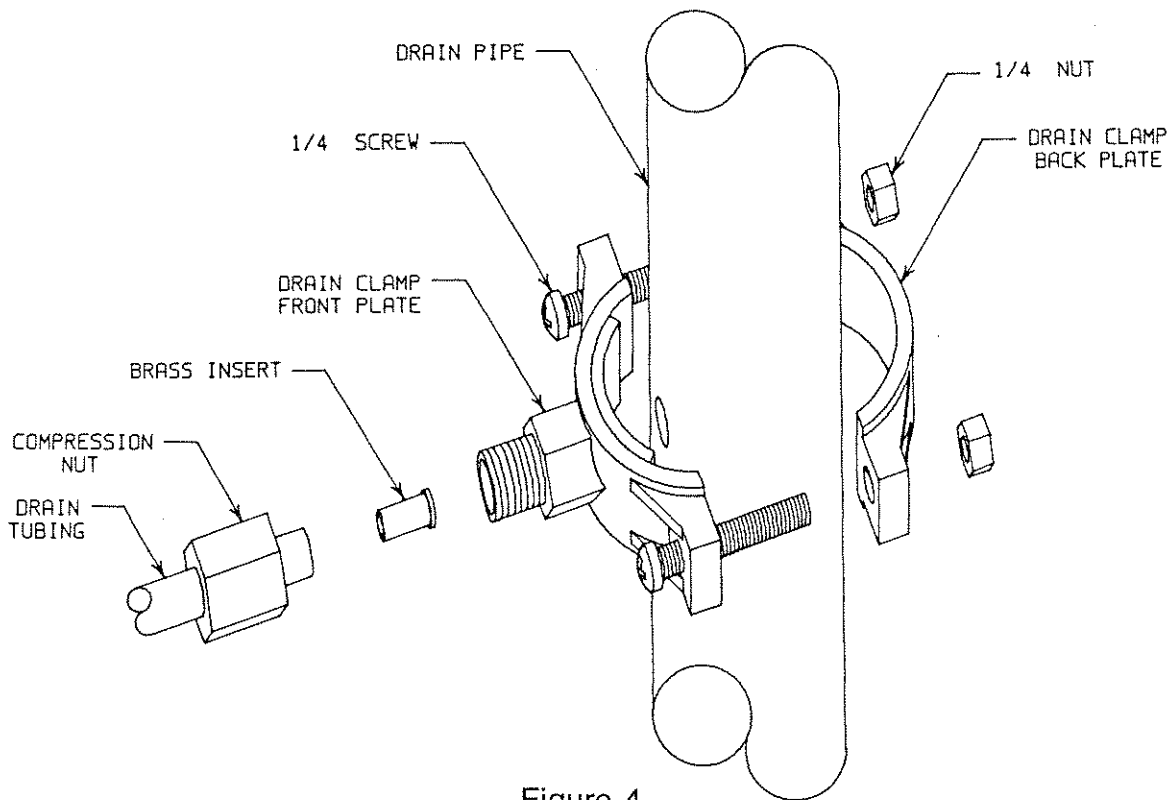

Figure 4
- Refer to Fig. 4, page 8. To connect the Drain Tubing, install the Compression Nut and the large Brass Insert.